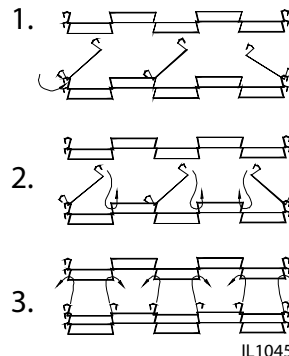

Fig 1. Master Links Removal & Installation
3. Heavily soiled conveyor surfaces, 214 models locate all 3 of the Master Links on the conveyor belt. Follow the step 1 in Fig 1, to remove all of the Master Links.
9. 214 models, Reinstall the previously removed master links as shown in steps 2 & 3 in Fig. 1.